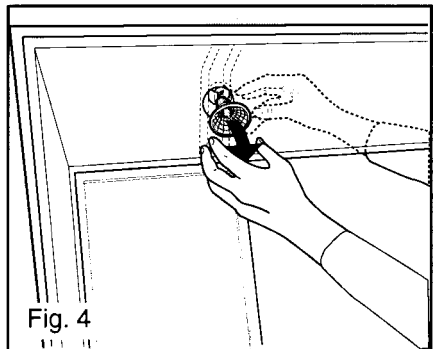

Fig. 4
**Replace Lights For Models HCSW48, HTSW (Fig. 4)**